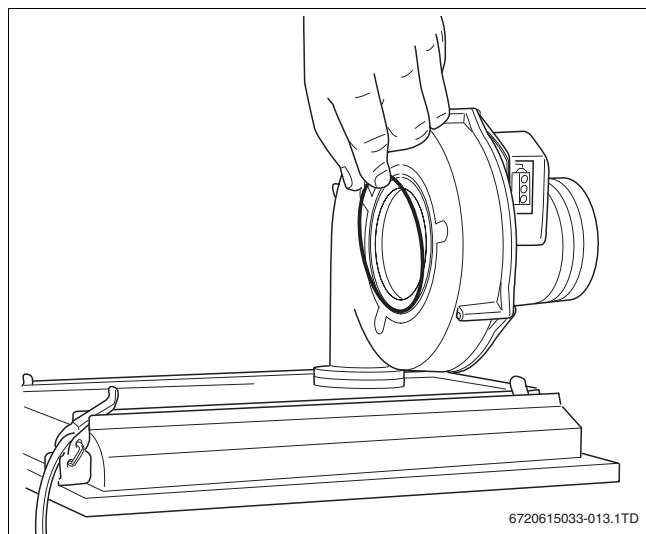

Fig. 9 Placing a new O-ring on the fan unit
- Install the venturi and gas valve on the fan unit using a new O-ring (→ fig. 9) and follow the instructions above in reverse order.